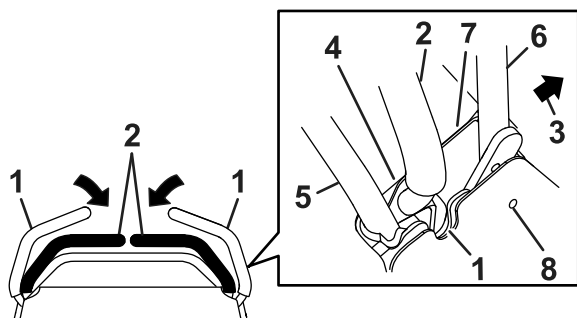

Figure 10
When the motion control levers are positioned fully outward (apart), the drive system is in the PTO disengage position (Figure 10).
1. Insert a allen wrench (7/32 inch) through the hole on one side of the control tower panel. Place a wrench (9/16 inch) on the corresponding nut located underneath the control tower. Loosen the bolt and repeat for the opposite side of the front reference bar (Figure 10).